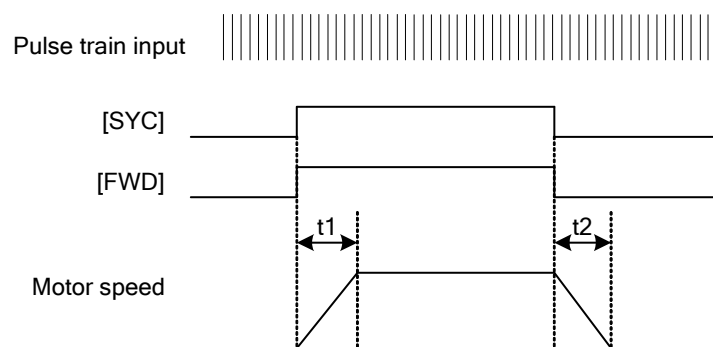

Figure 6.2.25
Times  $t_1$  (S) and  $t_2$  (S) in Figure 6.2.25 cannot be controlled by the inverter.